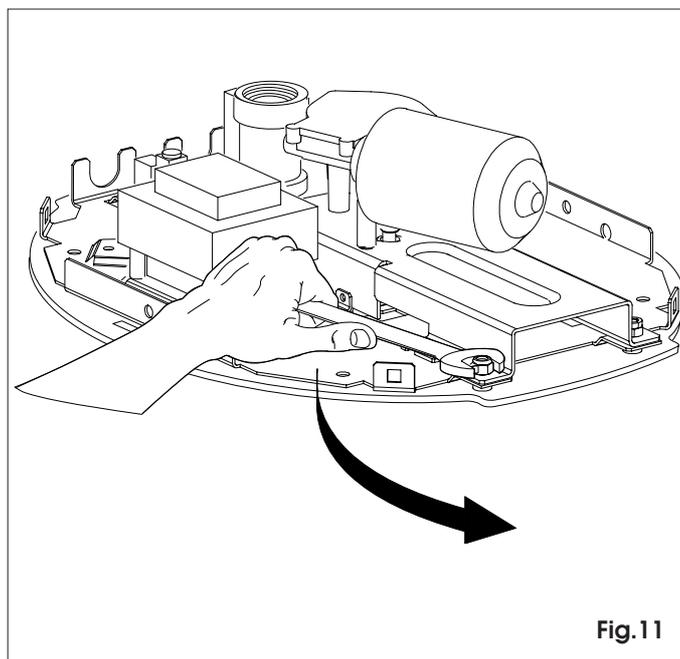

Fig.11
6.5 Remove the housing, unscrew the lamp and, using a suitable wrench, remove the nuts securing the motor unit to the operator (fig.11).